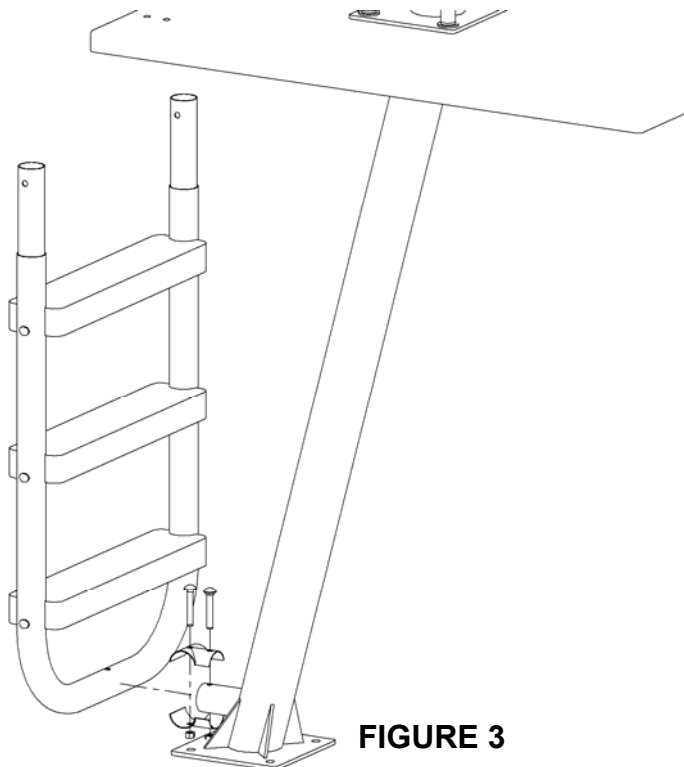

FIGURE 3
3. Attach the lower step assembly to the main pedestal using (2ea.) split tees half, $\frac{3}{8}$ "x2- $\frac{1}{2}$ " carriage bolt and $\frac{3}{8}$ " hex nut. See **FIGURE 3**